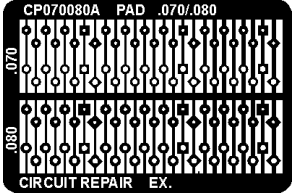

Figure 2: Select a replacement land that matches the missing land.
6. Select a replacement land that most closely matches the size and shape of the missing land. (See Figure 2).